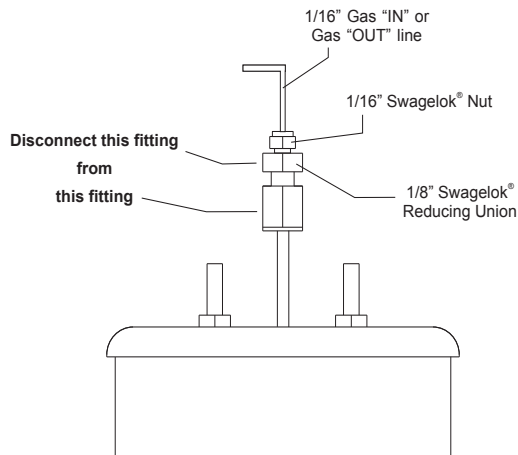

Figure 7-2
- B. Remove the top cover of the instrument. Four (4) Phillips-head screws at each corner secure the top cover. The screws must be removed completely.
- C. Disconnect the 1/8"-side of the reducing union to the GAS IN and GAS OUT lines atop the oven assembly (Figure 7-2).